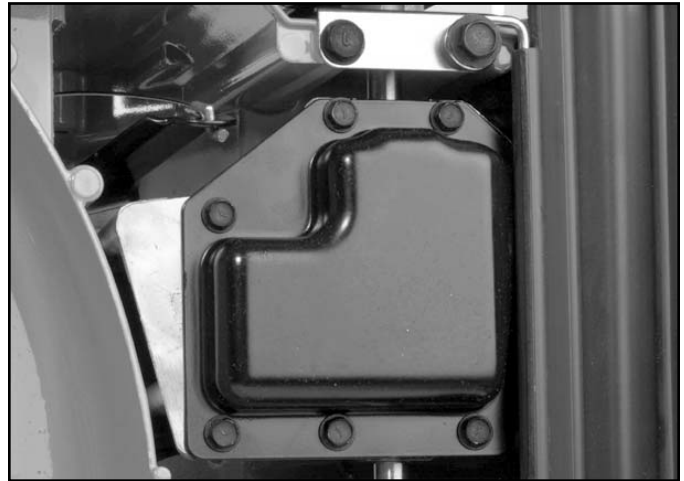

Fig 121
1. Remove the six flanged head self-tapping screws securing the transmission cover to the transmission case. Remove the cover (Fig. 121).